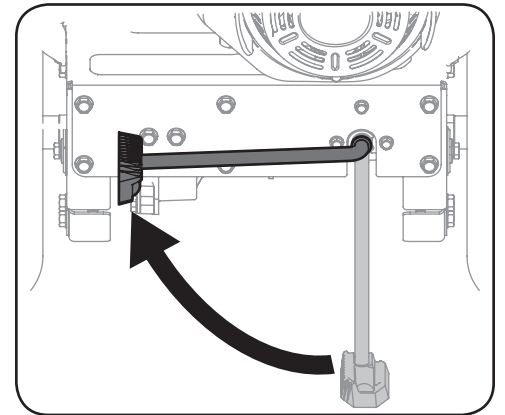

Figure 4-2
1. With the kickstand UP on the FLEX™ Power Base, as shown in Figure 4-2, roll it over to the snow thrower attachment.